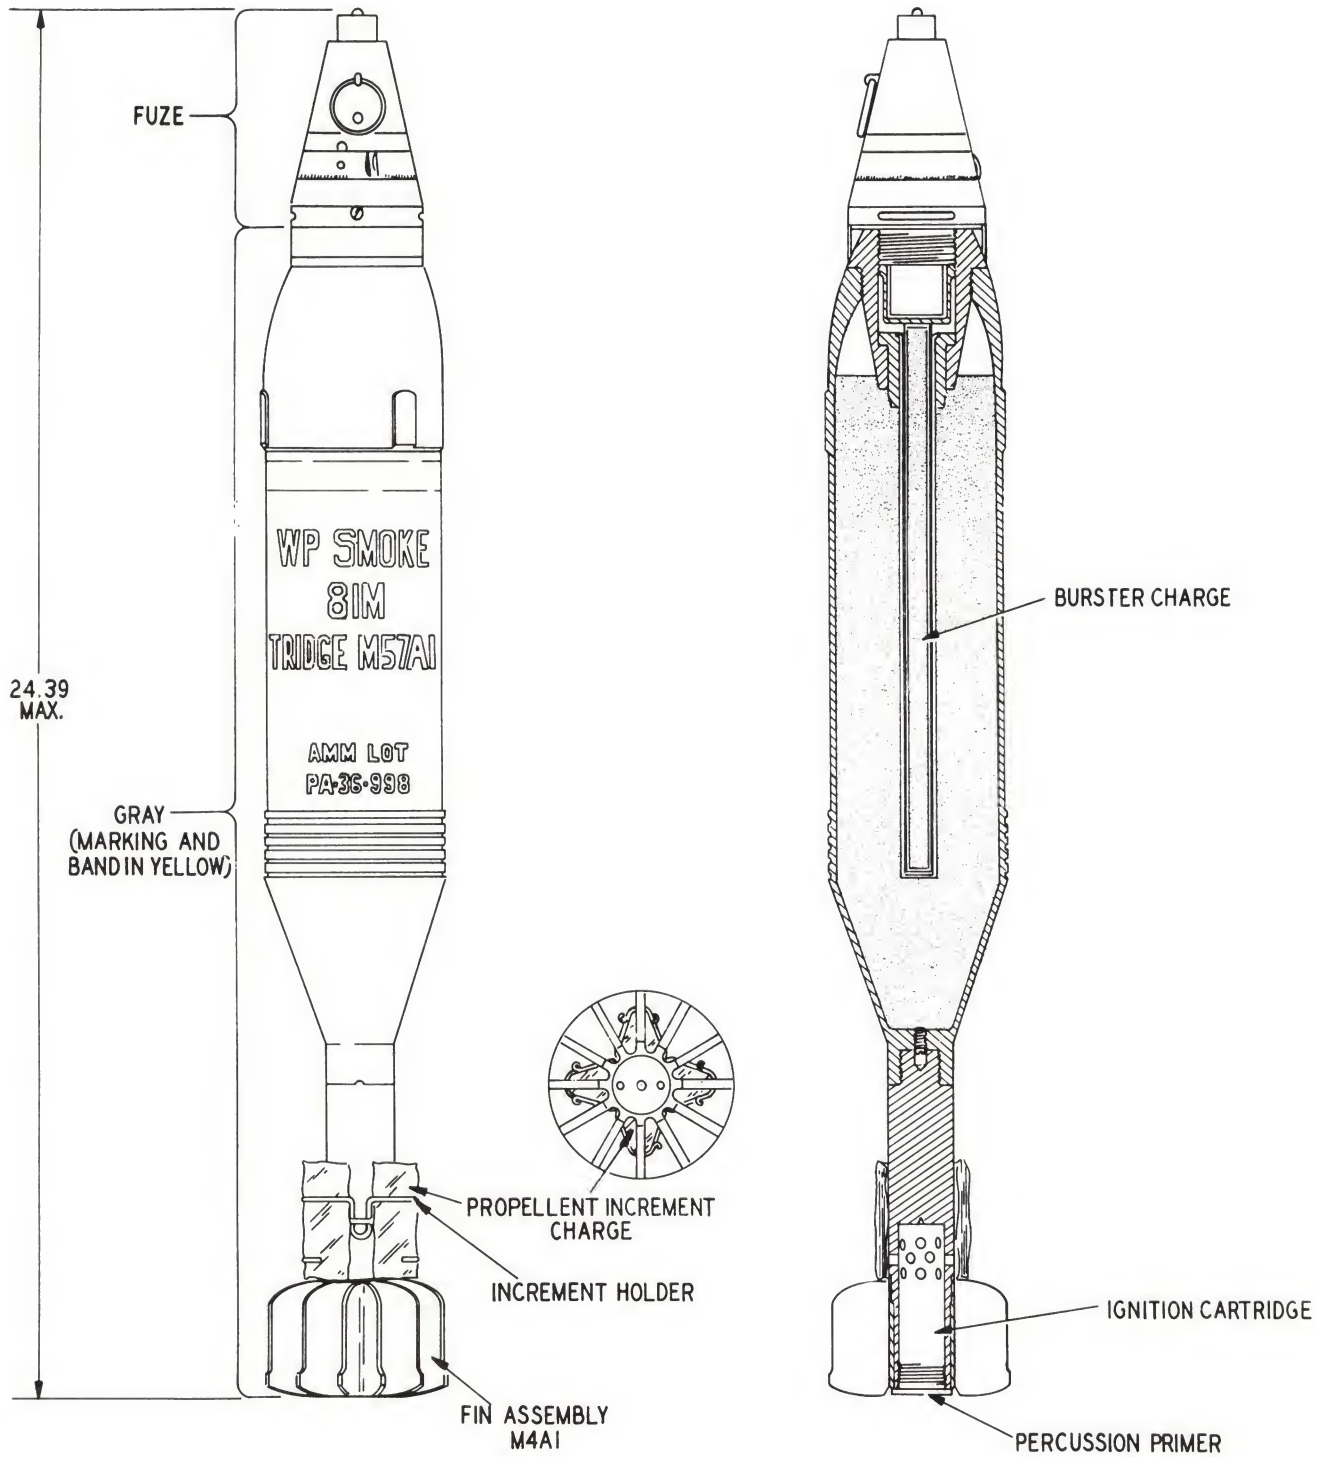

Figure 5-7. 81-MM Cartridge, Smoke, WP M57A1
- 5-35. Smoke (FS) or WP, M57. This series (figure 5-7) is intended for producing a screening smoke. It also has incendiary and casualty producing effects. It has an ignition cartridge plus 4 increment charges. M525 Series and M77 fuzes are authorized for use with this cartridge. M52, M53 and M82 fuzes are for emergency combat use with this cartridge.